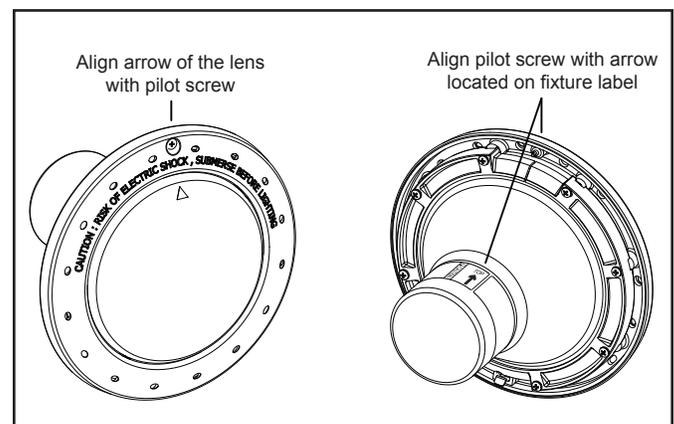

Figure 8. Lens, Pilot Screw and Label Alignment
3. Position the lens and gasket on the fixture body, by aligning the arrow on lens with the "TOP" marking on light fixture. See Figure 8.
- a. To replace a stainless steel face ring, align the top hole in the face ring and the pilot top hole in the top clamp. Press the face ring straight onto the top clamp. Both of the bottom two (2)
- b. To replace a plastic face ring, align the top hole in face ring with the pilot screw hole in top clamp. Press face ring straight onto the top clamp. All three (3) snaps in the face ring should engage. Insert the pilot screw into the hole in the face ring and hold in place using retaining ring.
5. Place the face ring clamp assembly over the lens so that the pilot screw is aligned with the small arrow mark on the face of the lens. See Figure 8.
7. Tighten the Phillips head screws (eight (8) for pool or six (6) for spa) in an alternating cross-pattern. Torque screws to approximately 20 in-lbs. Do not over-tighten.